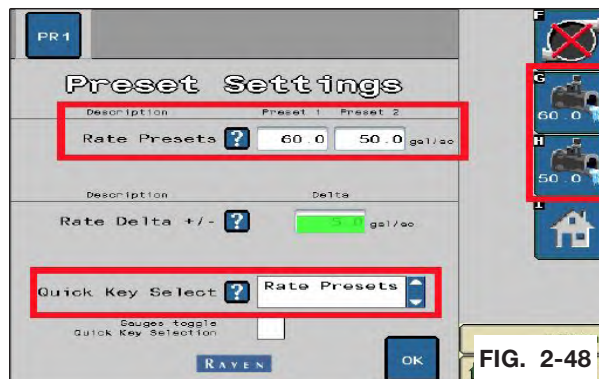

FIG. 2-48
17. Enter desired rates to apply. Also enter a rate change amount for bumping rate. Change Quick Key Select from “Rate Preset” to “Rate +/-” if desired to bump rate up and down. (FIG. 2-48). Click ok.